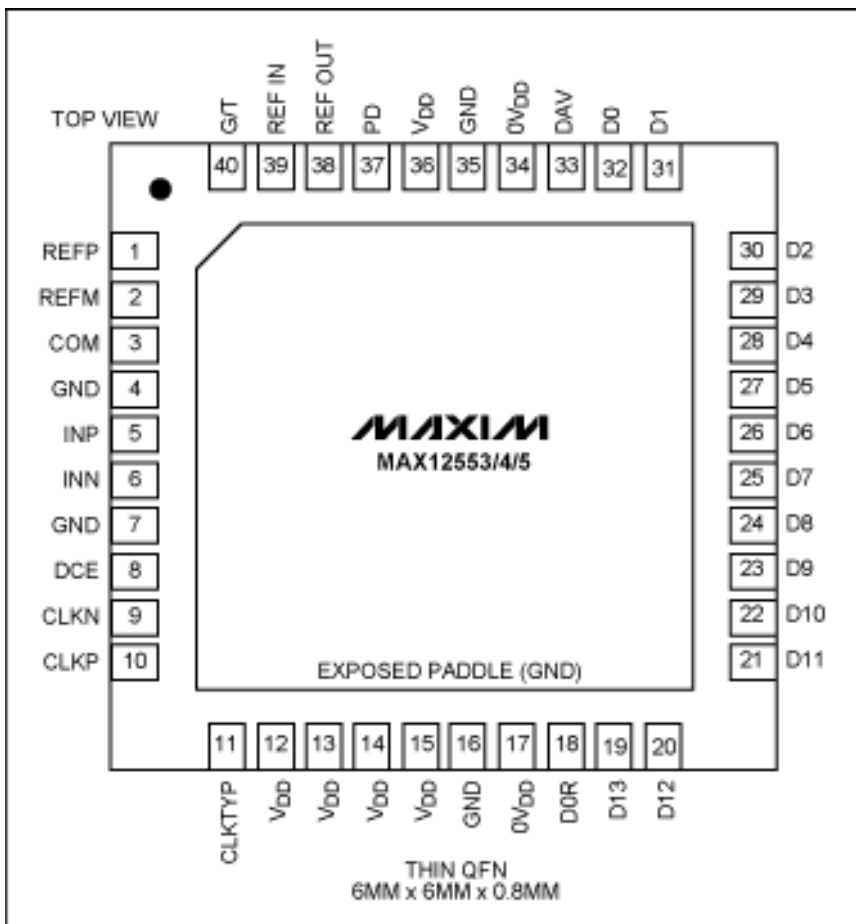

Figure 1. MAX12553, MAX12554, and MAX12555 Pinout
Figure 1 for an illustration of the pinout and **Table 1** for the pin description for this family of ADCs. The evaluation (EV) kit includes multiple options that allow for single-ended or differential clock, single-ended or differential clock analog input, internal/external reference, etc. Therefore, the EV kit schematics (**Figure 2** and **Figure 3**) accommodate many more external components and configurations than would be used in a normal application. **Figure 4** and **Figure 5**, finally, provide the silkscreen and component placement for the top and the bottom layer of the EV kit.